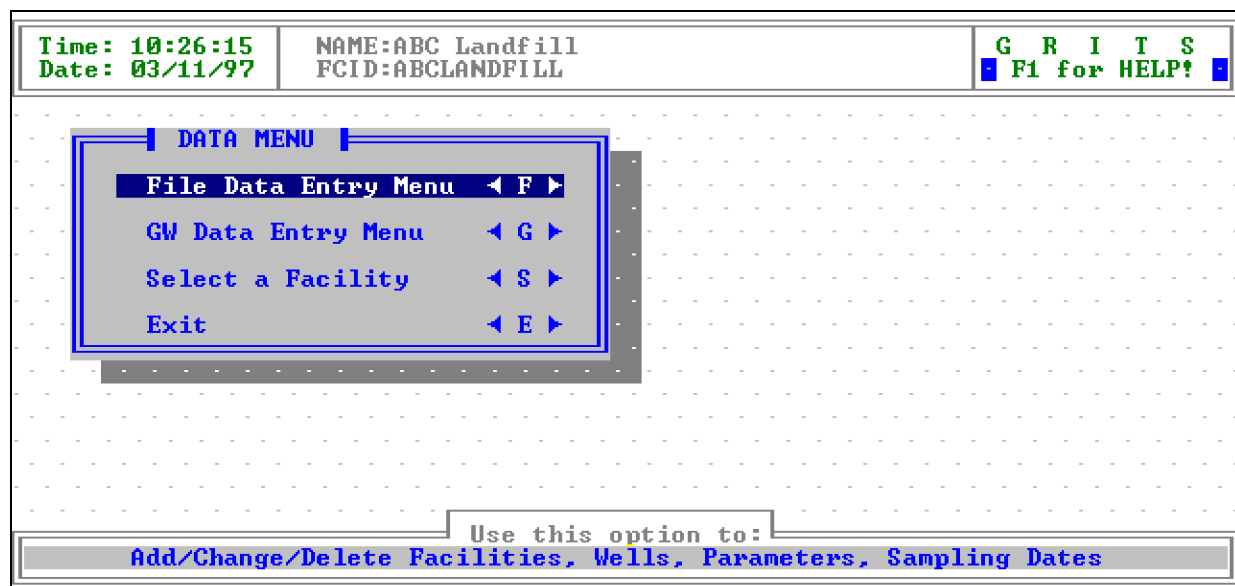

Figure 3-4. The GRITS Database module.
2. Use the up and down arrow keys to highlight the **GRITS Database** option from the **GRITS Main Menu** and press <Enter>. The **GRITS Database** module should appear on your screen as shown in Figure 3-4.